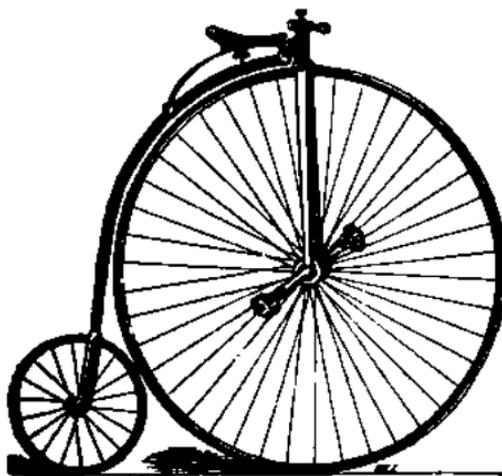

FIG. 5. THE HALLAMSHIRE.
18. *The Hallamshire* (B. and A. Hill, Sylvester Gardens, Arundel-street, Sheffield).—The Hallamshire (Fig. 5) has for some years been known as a very light type of the Stanley, or we may say "Sheffield style," as all made in the "home of steel" are constructed on very similar lines. The number of spokes put in the Hallamshire wheel is about one per inch, or generally sixty in large wheels, or in accordance with the wishes of customers, this is increased to eighty. They are of fine steel wire, and screw direct into large gun metal hubs, well recessed, in order to allow the bearings to go closer together. The hubs average 5¼in. to 5½in. diameter. The upper portion of each spoke where it screws into the nave (or hub) is left for ½in. free from any thread, so that there is a certain amount of "play," a system that has been found to answer successfully in lessening the liability to snap off short at that point where the chief strain is brought to bear. The bearings are rather remarkable, and seem specially adapted for rough work, as they possess solidity and strength